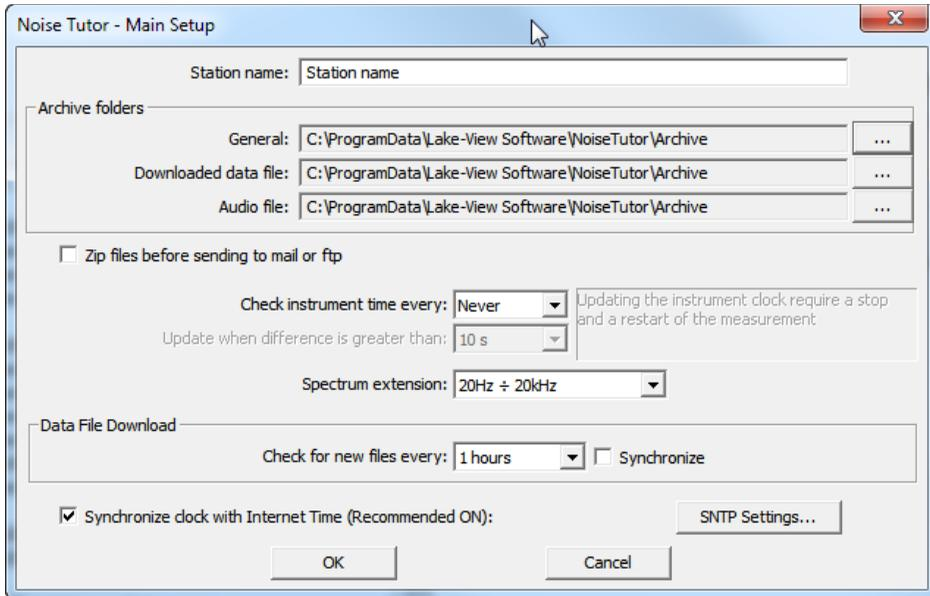

FIGURE 3-14 Main Setup
FIGURE 3-14 shows the **Main Setup** dialog box.
Step 2 Refer to FIGURE 3-14 while entering the following information: